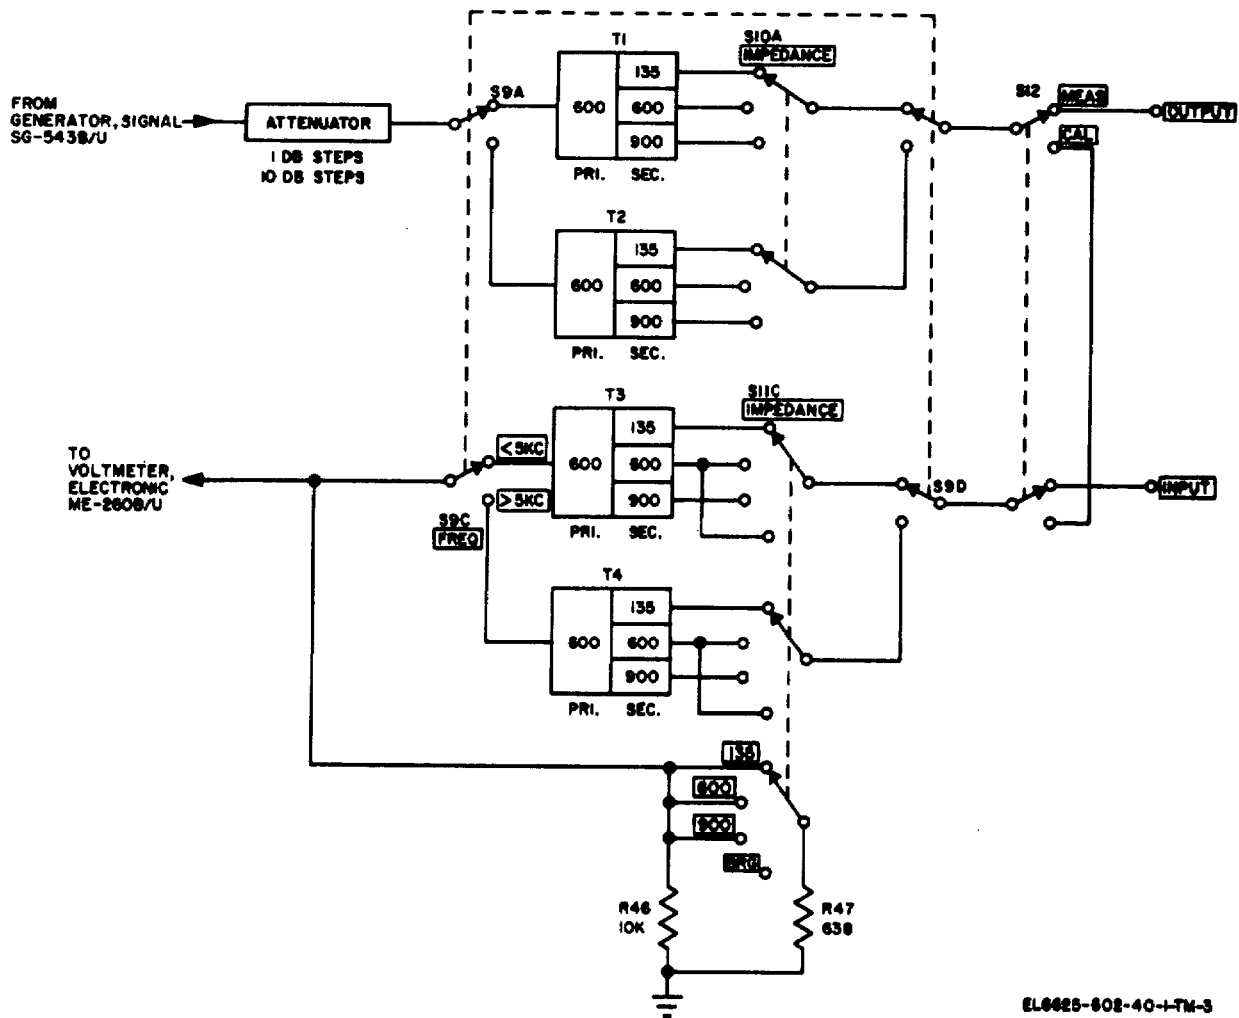

Figure 2-3. Attenuator, Impedance Matching CN947B/USM-181 simplified schematic diagram.
b. Output Transformers (fig. 2-3). The signal from the attenuator circuit is applied to the primary of output transformer T1 or T2 by front panel FREQ switch S9.
(1) When S9 is in the < (less than) 5 KC position, the primary of T1 is connected to the signal generator output. When S9 is in the > (greater than) 5 KC position, the primary of T2 is connected to the signal generator output.
(2) Transformer T1 is a low-frequency transformer for frequencies of 50 cps to 5 kc, and T2 is a high-frequency transformer for frequencies of 5 kc to 560 kc. Transformers T1 and T2 each have a 600-ohm primary to match them to the output impedance of the signal generator.
(3) Transformers T1 and T2 have tapped secondaries to provide impedances 135, 600, and 900 ohms as selected by front panel OUTPUT IMPEDANCE switch S10. This matches the output impedance of the transformers to the impedance of the transmission line connected to the OUTPUT terminals.
(4) The signal from the secondary of T1 or T2 is applied to the front panel FREQ switch. The FREQ switch selects the output of transformer T1 or T2, depending on the frequency of the signal required. The output signal is applied to MEAS-CAL switch S12.
(5) When S12 is in the MEAS position, the signal is applied to the OUTPUT terminals.
(6) When S12 is in the CAL position, the signal is applied to the VM INPUT terminal to calibrate the voltmeter assembly. With S12 in the CAL position, the OUTPUT and INPUT terminals are disconnected from the circuit.
c. Input Transformer (fig. 2-3). The input signal from the transmission line is applied to the primary of transformer T3 or T4, through the INPUT terminals, MEAS-CAL switch S12, and FREQ switch S9. Transformer T3 is used for frequencies of 50 cps to 5 kc, and T4 is for frequencies of 5 kc to 560 kc.
(1) The secondaries of T3 and T4 are tapped to provide impedances of 135, 600, 900, and 10K (BRG) ohms which are selected by INPUT IMPEDANCE switch All. This matches the transmission line impedance to the transformer. When